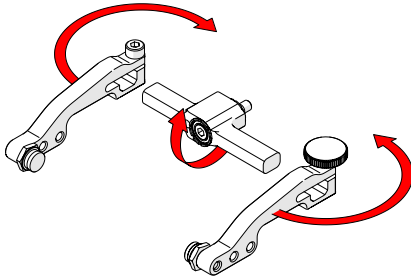

Fig. 148 - Flip yoke and reverse arms
3. Flip the yoke 180° and reverse the probe holder arms (*Fig. 148*).